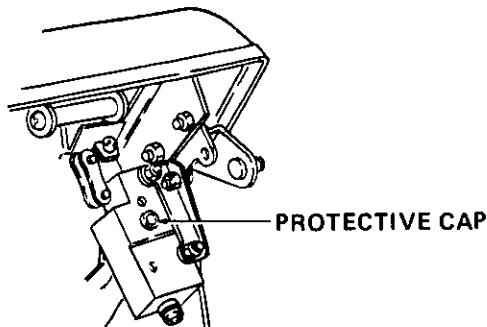

Figure 4
2. Insert a plastic plug (taken from uninstalled hydraulic valve in kit) in the open port on top of the valve from which the top hydraulic tube was removed. Use care to keep the uninstalled hydraulic valve clean. Refer to Figure 4.